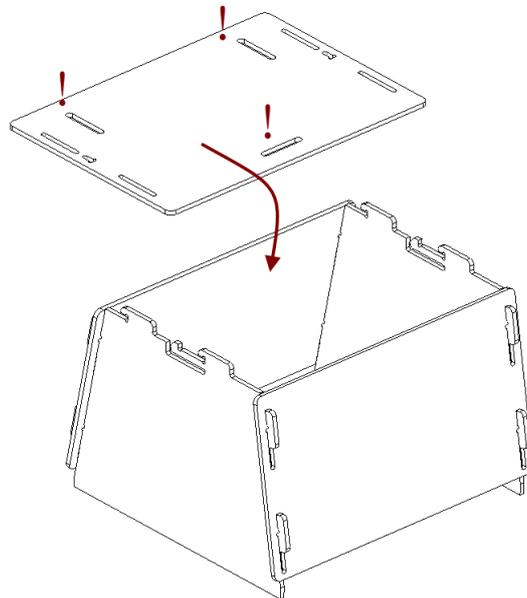

Figure 143: Mounting the cover.
3. Paying attention to orientation of the slots, install the cover using the upper hooks of the side walls (see Figure 143).